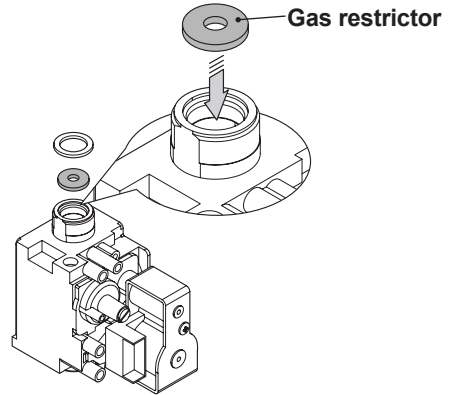

Fig. 9.2
- Carry out gas conversion by correctly replacing the gas restrictor (Fig. 9.2), referring to the section "Technical data ADVANCE 150V" on page 24, "Technical data ADVANCE 180V" on page 27 and "Technical data ADVANCE 240V" on page 30.